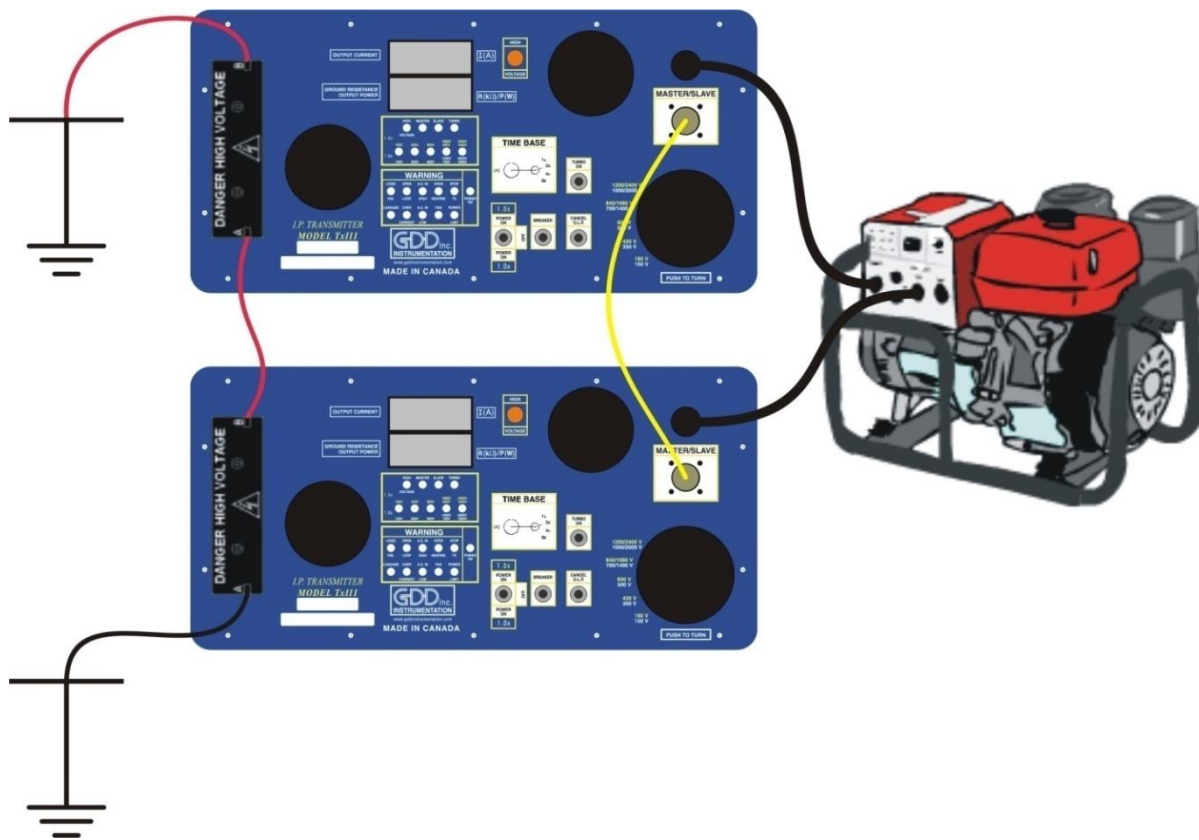

Figure 2 – Master/Slave system diagram
1. Connect the yellow synchronization cable (Master/Slave) to the transmitters. The Master/Slave cable terminations are different: one is labeled *MASTER* and the other one *SLAVE*. The transmitter is *MASTER* or *SLAVE* according to the termination of the cable connected on his interface. The *MASTER* and *SLAVE* LEDs indicate the mode of each transmitter. (see figure 2, yellow line)
2. Connect an insulated wire between the terminal (A) of one transmitter and the terminal (B) of the other one. (see figure 2, pink lines)
3. Connect the two power cables from the transmitters to the generator. (see figure 2, black lines)
4. Drive the electrodes into the ground and connect them to the unused terminals (A) and (B) by using insulated wires. (see figure 2, pink lines).